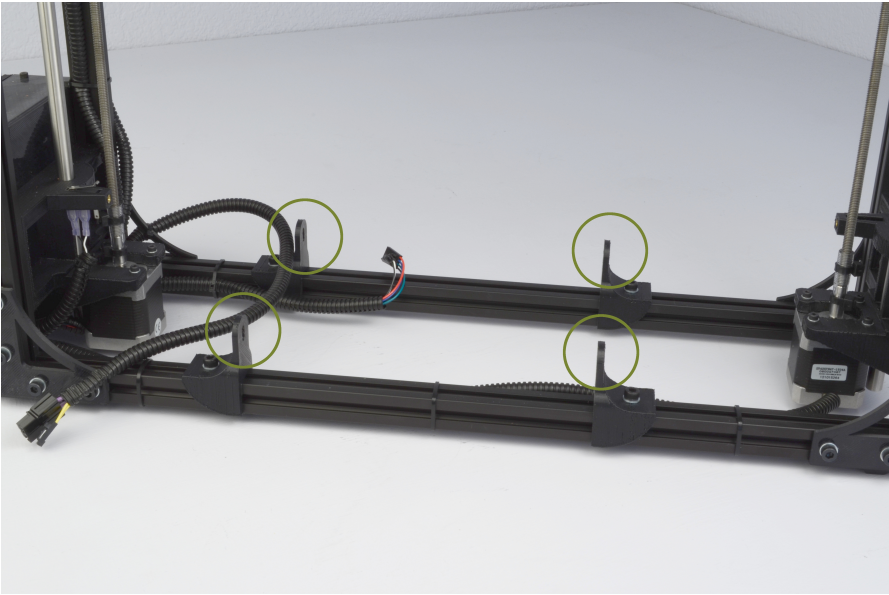
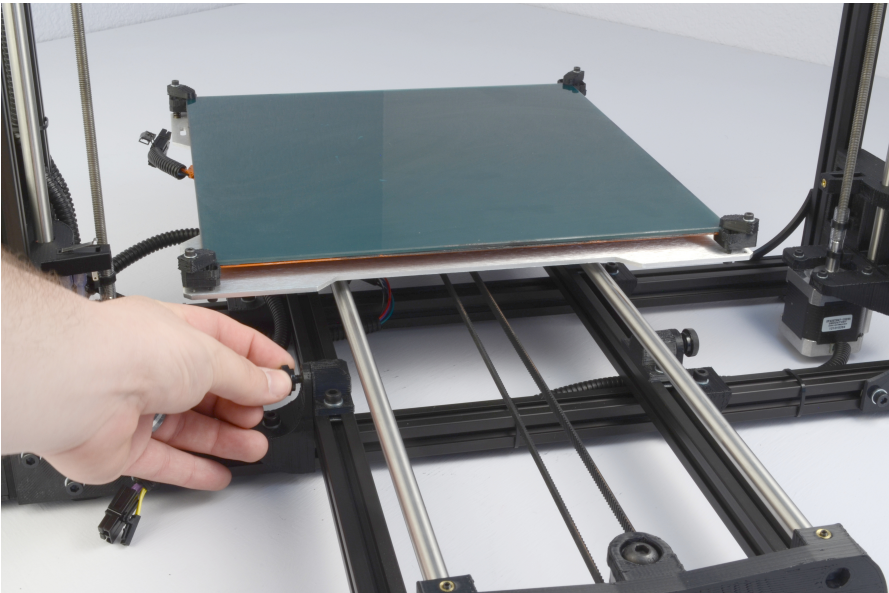

Figure 1.3: Locate the four Y axis mounts on the frame
Figure 1.4: Screw in and tighten the four Y axis bolts
3. On the TAZ frame locate the four Y axis mount brackets shown in Fig. 1.3 (pg. 16). With the print surface facing up and the stepper motor end of the Y axis facing back, slide the Y axis assembly in between the Y axis mount brackets. The four Y axis mount brackets will line up with the Y axis bolt holes on the Y axis assembly. Thread the four Y axis bolts through the brackets, into the Y axis assembly (Fig. 1.4, page 16). Before completely tightening the Y axis bolts make sure the Y axis aluminum bars are pushed down against the TAZ frame lower bars. You can do this by slightly tilting the printer, on the side edge, enough to lift the feet of the Y axis off of the table. The weight of the Y axis will seat it against the TAZ frame. While the printer is slightly tilted tighten the four Y axis bolts. The printer can be now be set flat on the table.